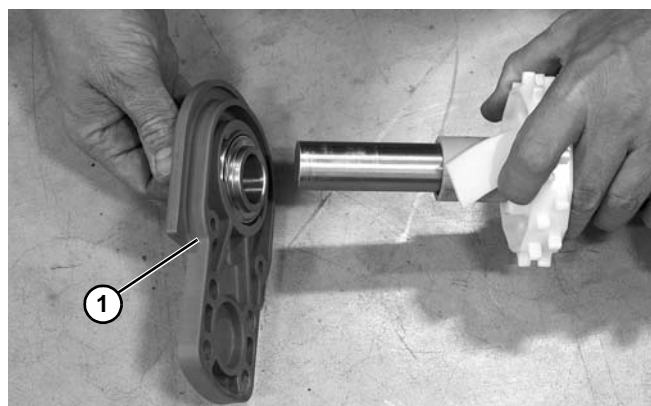

Figure 51
8. Slide the headplate with bearing (Figure 51, item 1) off the drive spindle.